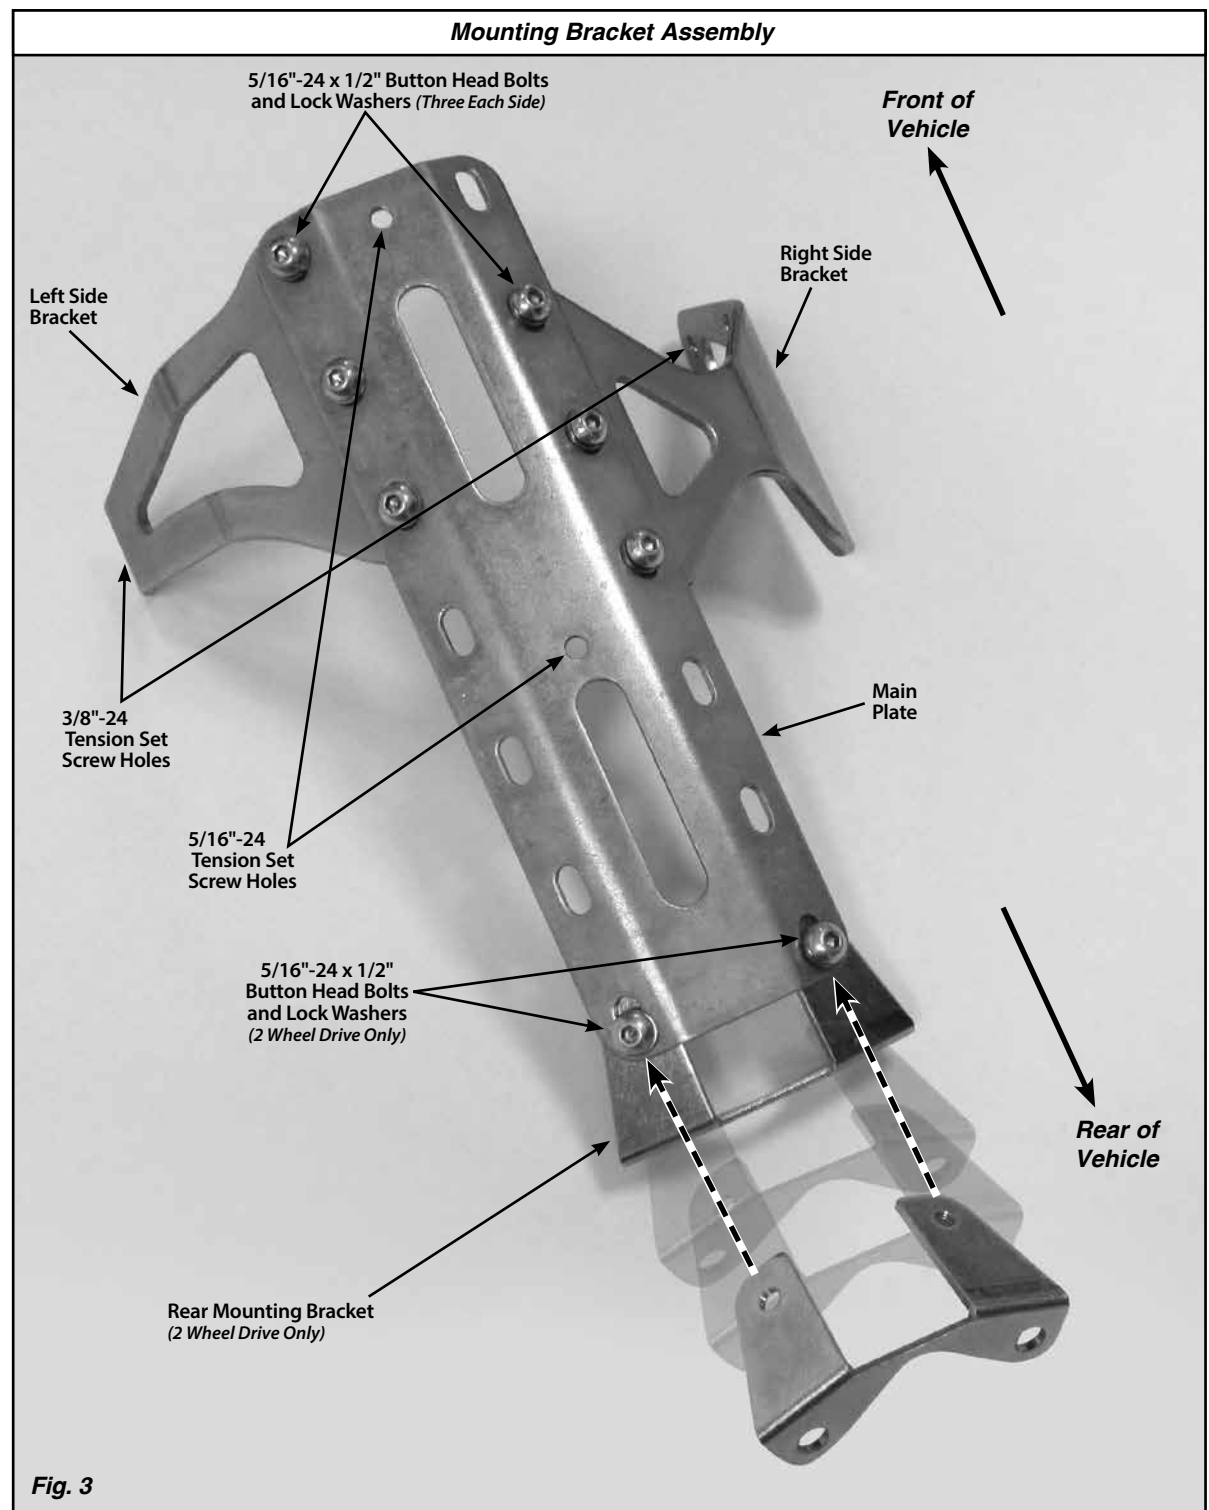

Fig. 3
The left side bracket and right side bracket bolt directly to the main plate. **NOTE: The right side bracket will be offset rearward on the main plate by one slot, compared to the left side bracket.** Attach the side brackets to the underside of the main plate as shown in **Fig. 3**, using three 5/16"-24 x 1/2" button head bolts and lock washers on each side. **DO NOT TIGHTEN AT THIS TIME.**
Step 4: (2 Wheel Drive Transmissions) Attach the rear mounting bracket to the underside of the main plate with the bracket ears pointing to the front of the transmission (toward the engine) as shown in **Fig. 3**, using two 5/16"-24 x 1/2" button head bolts and lock washers. **DO NOT TIGHTEN AT THIS TIME.**